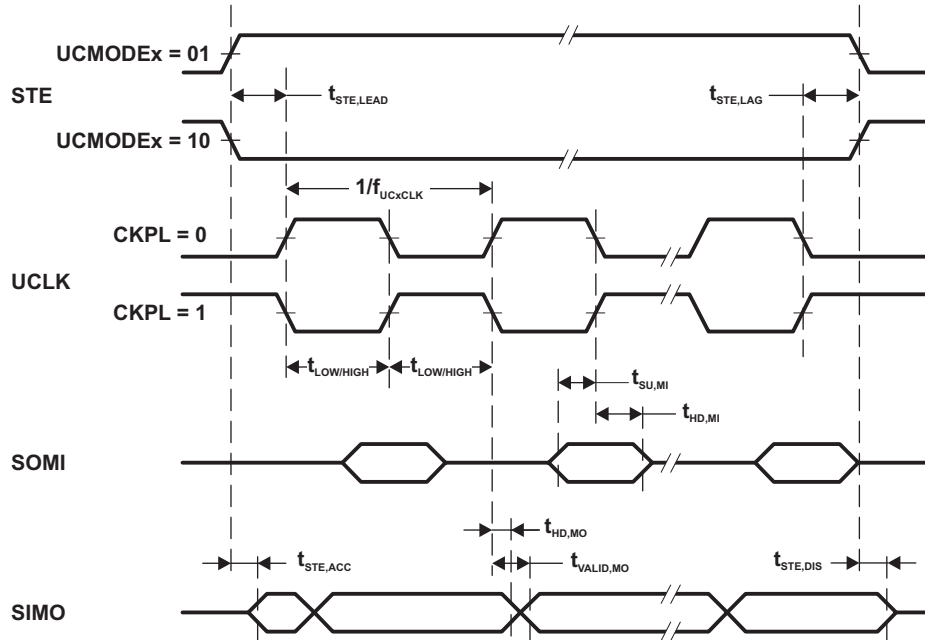
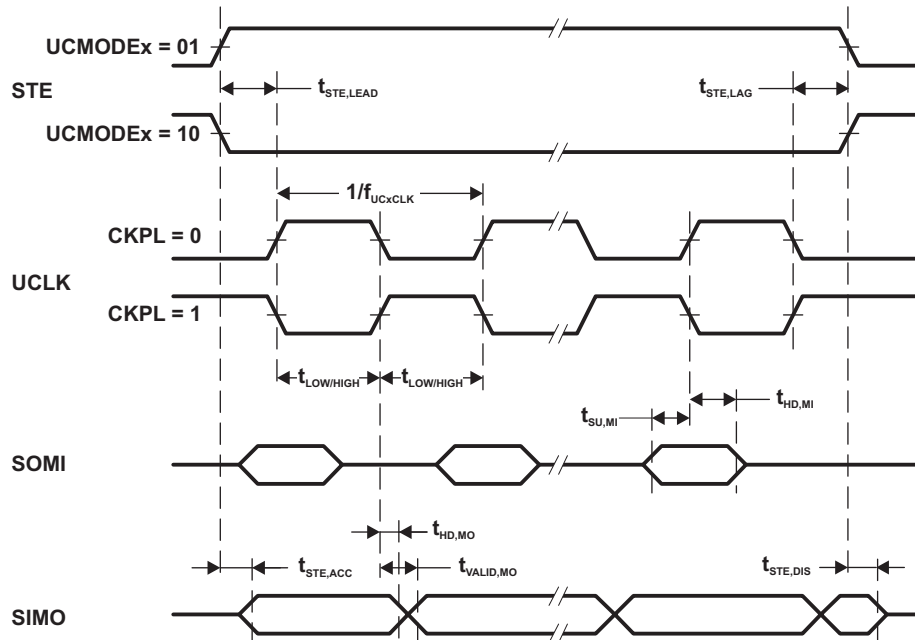

Figure 5-15. SPI Master Mode, CKPH = 0
Figure 5-16. SPI Master Mode, CKPH = 1
- (1) $f_{UCxCLK} = 1/2t_{LO/HI}$ with $t_{LO/HI} = \max(t_{VALID,MO}(eUSCI) + t_{SU,SI}(Slave), t_{SU,MI}(eUSCI) + t_{VALID,SO}(Slave))$. For the slave parameters $t_{SU,SI}(Slave)$ and $t_{VALID,SO}(Slave)$, refer to the SPI parameters of the attached slave.
- (2) Specifies the time to drive the next valid data to the SIMO output after the output changing UCLK clock edge. Refer to the timing diagrams in Figure 5-15 and Figure 5-16.
- (3) Specifies how long data on the SIMO output is valid after the output changing UCLK clock edge. Negative values indicate that the data on the SIMO output can become invalid before the output changing clock edge observed on UCLK. Refer to the timing diagrams in Figure 5-15 and Figure 5-16.